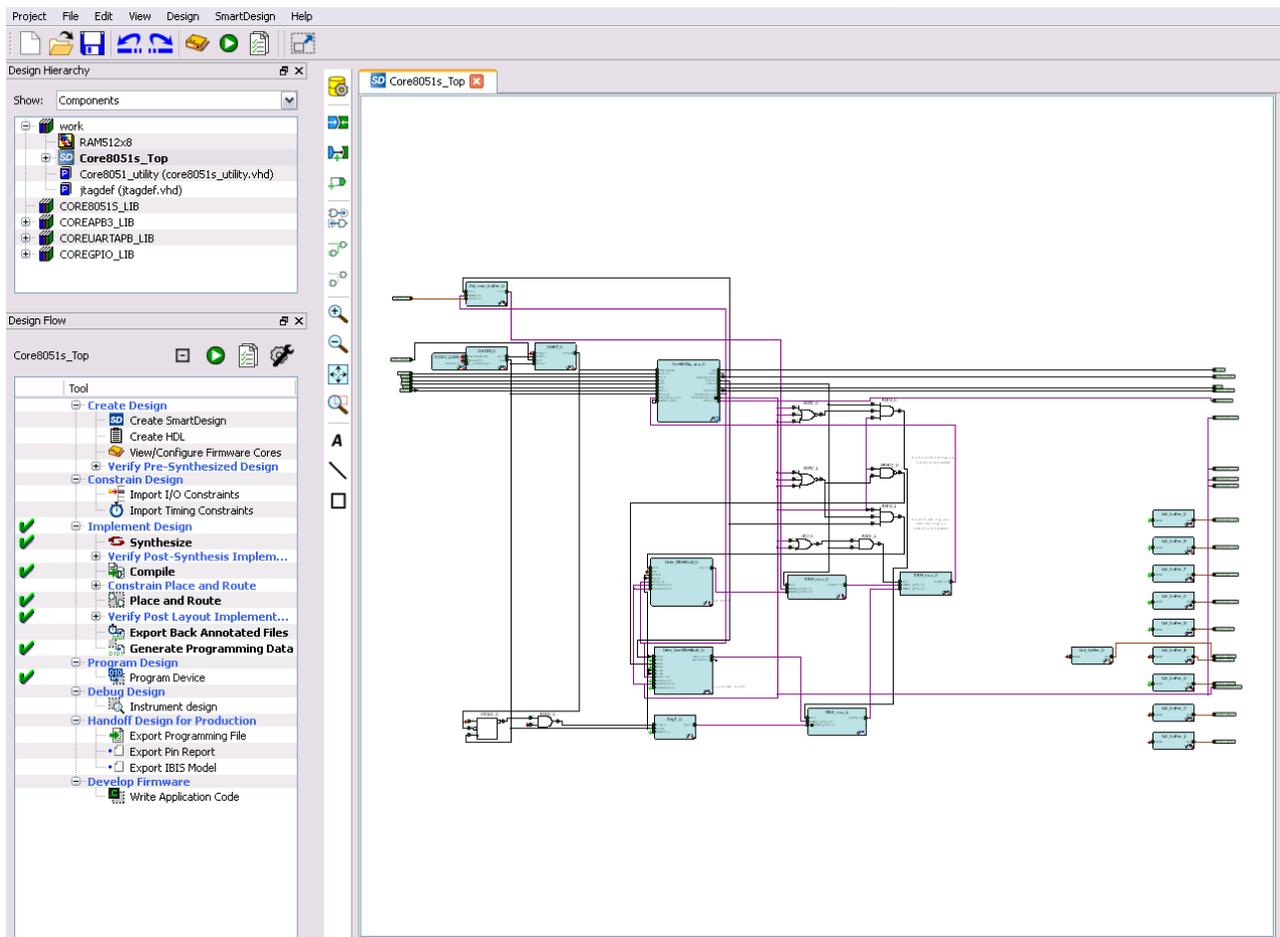

Figure 7 Top Level SmartDesign Window
- The top level SmartDesign window is displayed, as shown in Figure 7.